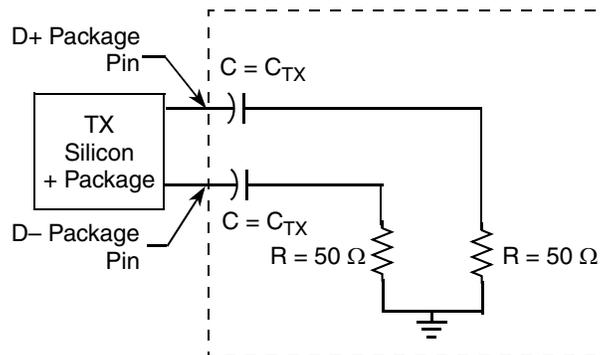

Figure 58. Test/Measurement Load
1. Specified at the measurement point into a timing and voltage compliance test load as shown in Figure 58 and measured over any 250 consecutive Tx UIs.
- Specified at the measurement point and measured over any 250 consecutive UIs. The test load in Figure 58 must be used as the Rx device when taking measurements. If the clocks to the Rx and Tx are not derived from the same reference clock, the Tx UI recovered from 3500 consecutive UI must be used as a reference for the eye diagram.
2. Specified at the measurement point into a timing and voltage compliance test load as shown in Figure 58 and measured over any 250 consecutive Tx UIs.
The AC timing and voltage parameters must be verified at the measurement point. The package pins of the device must be connected to the test/measurement load within 0.2 inches of that load, as shown in Figure 58.
2. Specified at the measurement point and measured over any 250 consecutive UIs. The test load in Figure 58 must be used as the Rx device when taking measurements. If the clocks to the Rx and Tx are not derived from the same reference clock, the Tx UI recovered from 3500 consecutive UI must be used as a reference for the eye diagram.